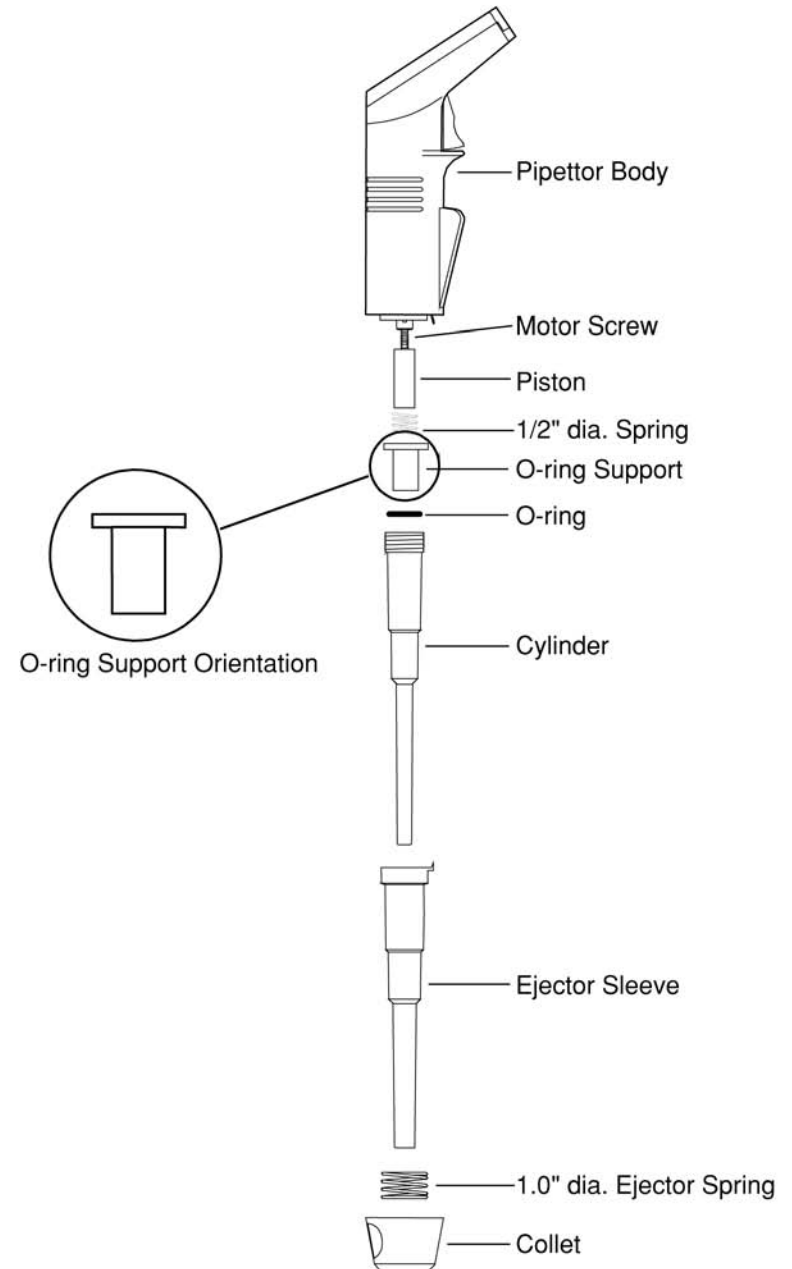

Figure F.1.1c: Pipettor Tip Assembly
4. Remove O-ring, O-ring support, and 1/2" diameter spring for cleaning by sliding them off of the the piston (refer to Figure F.1.1c).
After cleaning or decontaminating the disassembled parts, the pipettor can be reassembled (refer to Figure F.1.1c for parts identification and reassembly order).